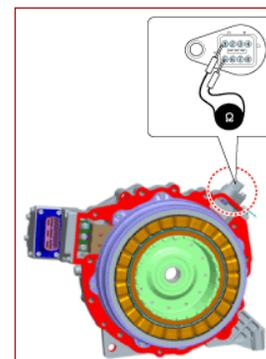

Fig. 5. (right)
- **Motor Resolver(s) resistance** (see Fig. 5): A resolver is an extremely accurate motor position sensor that reads rotor position whenever the vehicle's powertrain is powered up (READY Mode). It consists of a ring of coils, resembling a stator winding, surrounding an elliptical steel lobe mounted on the motor-generator's rotor shaft. This test checks the resistance of the resolver windings.